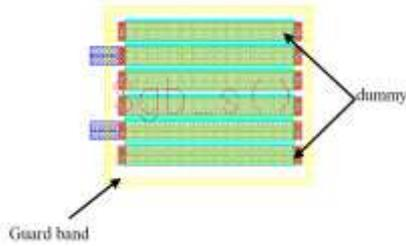

Figure7: Dummy Resistor Pattern
- c) The dummy resistor pattern is shown in the following Figure7